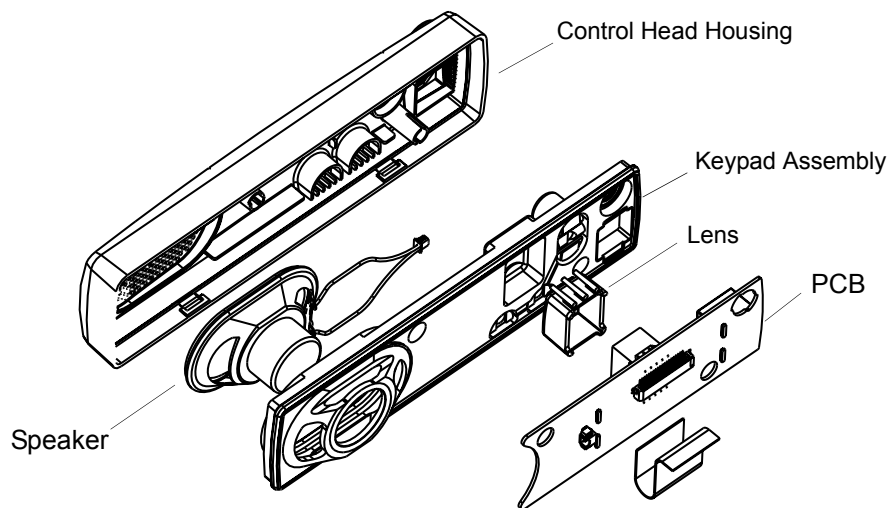

Figure 2-11 Control Head Housing Removal CM200
1. Disconnect the flat cable from the Control Head PCB connector. See Figure 2-11.